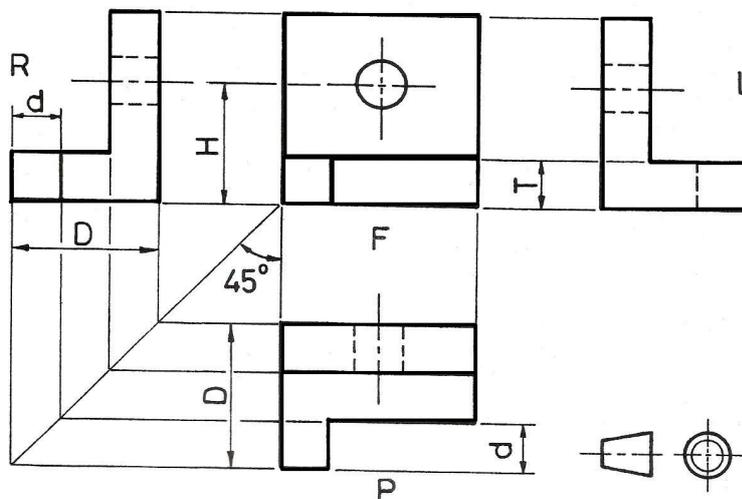

Figure 20 - Complete Orthographic Drawing
The separate views of the component are combined to form a complete orthographic drawing as shown in Figure 20.
Projection of widths from side view to plan is made easier by using the 45° swing line as shown in Figure 20.
The orthographic drawing of the bracket, Figure 20, was constructed step by step as follows:
Step 5. All hidden detail, i.e. for hole and recess, was added and the outline "heavied-in" to complete the drawing as shown in Figure 20.